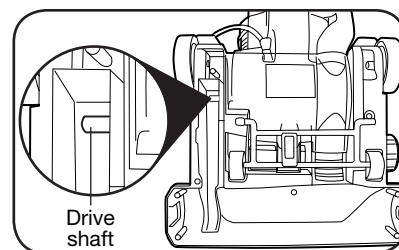
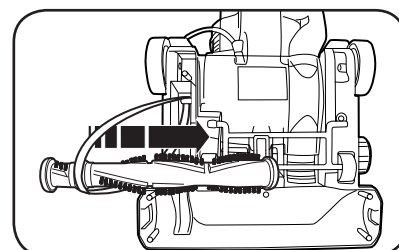

Fig. 3
Fig. 4
3. Loop the new belt around the drive shaft (Fig. 3) and the raised ring between the bristles on the brushroll (Fig. 4).